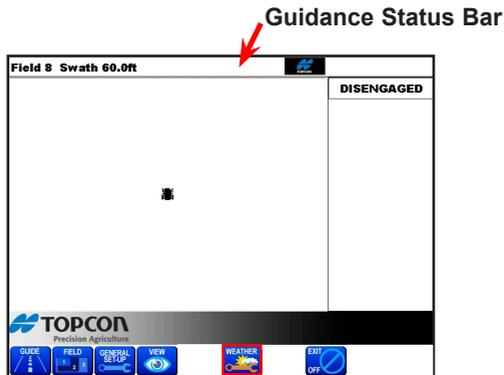

Figure 9-1. WEATHER Button with Guidance Startup Buttons
1. Press the **WEATHER** button (Figure 9-1)